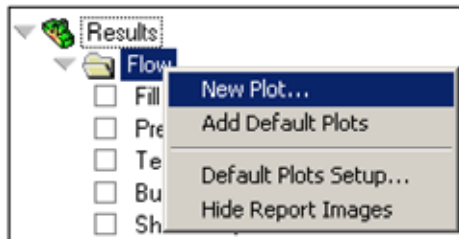

Figure 108: Create a new plot from the study tasks list
- Right-click in the Study Tasks list on the Results or folder icons and select New Plot, as shown in Figure 108.